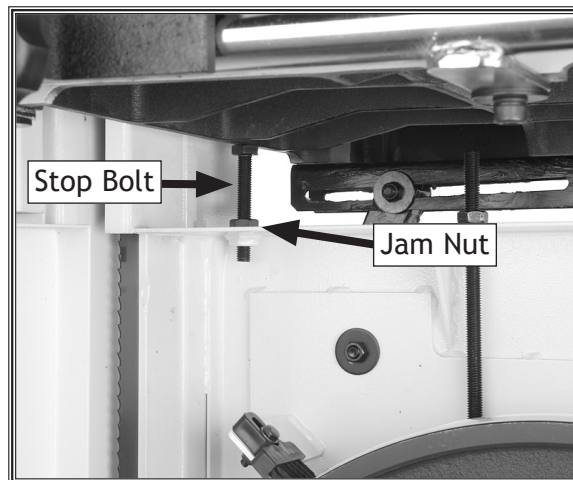

Figure 20. Positive stop bolt and jam nut (as viewed from front).
3. Loosen the jam nut that locks the positive stop bolt in place, as shown in **Figure 20**.